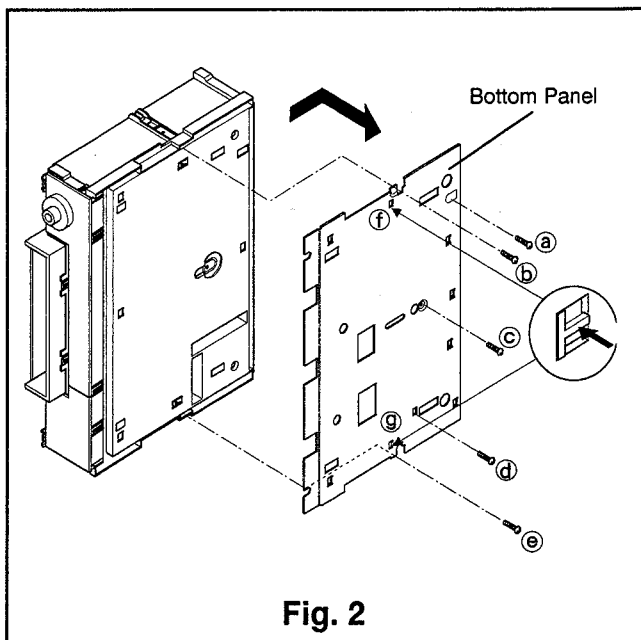

Fig. 2
- ① Remove five fastening screws (a~e) shown in Fig. 2.
- ② Push the two inside hooks (f and g), holding the Bottom Panel and slide the Bottom Panel toward the rear to remove it.